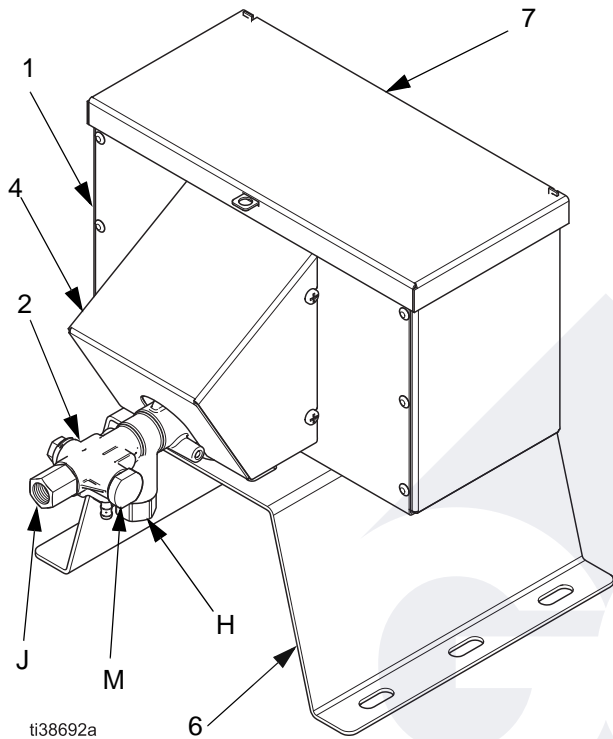

FIG. 1 G-JR Pump Components
1. Remove and discard the caps on the Pump Inlet (H) and Outlet (J). See FIG. 1 on page 5.
2. Connect a 1/4 npt(f) fluid line from the fluid source to the Pump Inlet (H).
3. Slowly loosen the pump outlet (J) fitting to relieve downstream fluid pressure. See FIG. 1 on page 5.
4. Disconnect and cap the Inlet (E) and Outlet (F) Lines.
2. Connect the Pump Inlet (H) to the flushing fluid supply source. See FIG. 1 on page 5.
3. Connect the Pump Outlet (J) to a waste reservoir.
1. Reconnect the Inlet (E) and Outlet (F) Lines that were disconnected in the **Pressure Relief Procedure**, 10.
4. In order to prime the pump, slowly loosen the Priming Port Plug (M) approximately 1/2 to 1 turn. See FIG. 1 on page 5.
7. Tighten the Priming Port Plug (M) and verify that fluid has stopped draining from the port.